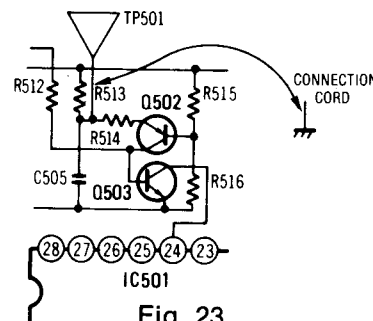

Fig. 23
- As shown in fig. 23, connect a wire between TP501 and ground terminal.